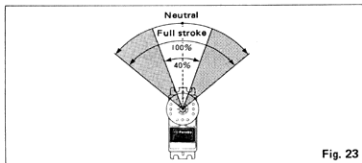

Fig. 23
When the dual rate switch is set to ON, the servo throw is made smaller by the amount shown by the hatched lines in Fig. 23. The servo throw can be set from 40% to 100% of the full stroke by adjusting trimmer (A) or trimmer (B) on the trimmer panel with a Phillips screwdriver.